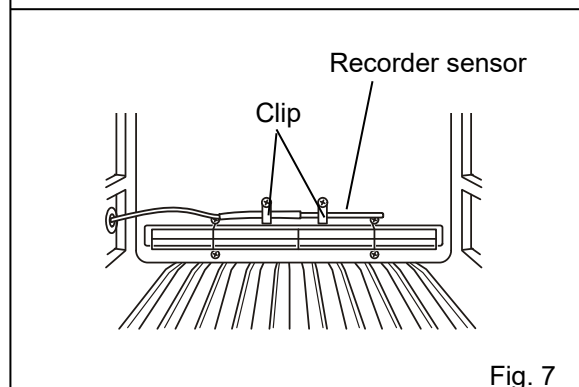

Fig. 7
6. Fix the recorder sensor for refrigerator to the attachment hole on the back side of the refrigerator by using the clips enclosed with the recorder fixture (MPR-S7) [Fig. 7].